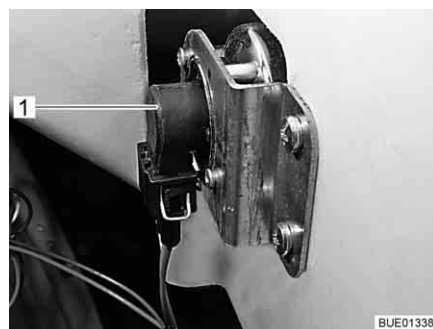

Fig. 255 Direction indicator
- Put your hand behind the lamp holder (Fig. 255,1).